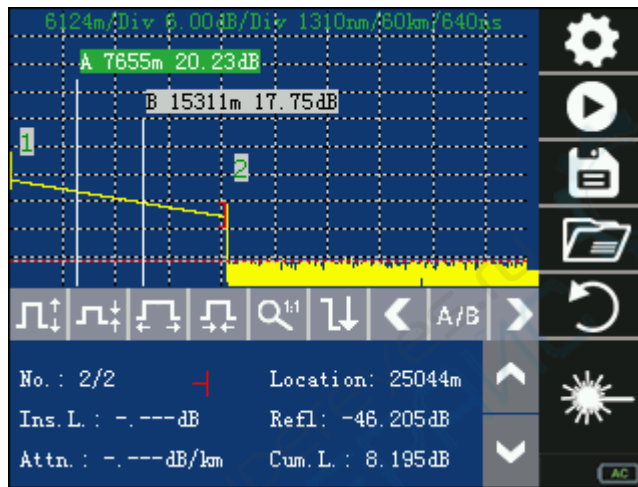
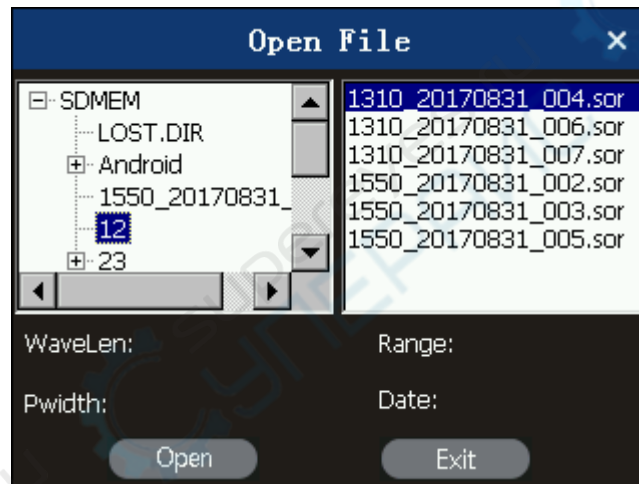

Figure 4-4 OTDR Trace
Figure 4-5 Viewing an existing trace
- During the measurement process, the intermediate result of the measurement is displayed on the screen. The trace is refreshed regularly to display the entire measurement process to users. After the measurement duration expires, the trace is the final trace, as shown in Figure 4-4.
On the page as shown in Figure 4-4, press [ESC] or tap  or  on the touch screen to display measurement parameters, analysis parameters, event information, and A/B marker information cyclically.
On the page as shown in Figure 4-4, press [ESC] or tap  or  on the touch screen to switch to the event list.
On the page as shown in Figure 4-4, press [Shift/⌘] and [ESC] together, or tap  on the touch screen to switch between markers A and B.
On the page as shown in Figure 4-4, press [ESC] or tap  or  on the touch screen to switch to the A/B marker information.
- On the page as shown in Figure 4-4, tap  on the touch screen, or press [Shift/⌘] and [▶] on the keypad together to zoom in the trace horizontally.
- On the page as shown in Figure 4-4, tap  on the touch screen, or press [Shift/⌘] and [◀] on the keypad together to zoom out the trace horizontally.
- On the page as shown in Figure 4-4, tap  on the touch screen, or press [Shift/⌘] and [▲] on the keypad together to zoom in the trace vertically.
- On the page as shown in Figure 4-4, tap  on the touch screen, or press [Shift/⌘] and [▼] on the keypad together to zoom out the trace vertically.
- On the page as shown in Figure 4-4, tap  on the touch screen, or press [Shift/⌘] on the keypad to display the full trace.
On the page as shown in Figure 4-4, press [▲] or [▼] to select the icon , and press [Enter] to access the Open File dialog box, as shown in Figure 4-5. Alternatively, directly tap the icon  to access the Open File dialog box.